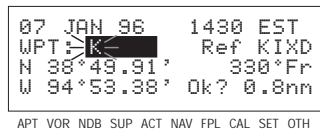
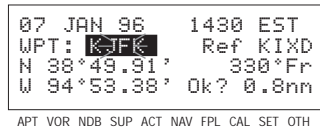

Figure 3-14
Figure 3-15
7. To aid the GPS receiver in acquiring your position, it is vital that it have a reasonable idea of where you are, and the Initialization page is where you have the chance to set this initial position. Check to see if the displayed initial position is where you actually are. This latitude/longitude is the last known position before the power was shut down the last time. Unless the unit has been moved since its last use, this position should be correct. On the right side of the screen will be the identifier of the nearest airport in the data base, with a radial and distance from that airport. If you need to change the initial position to—let's say—John F. Kennedy International (KJFK), move the cursor to the **WPT:** field and use the right inner knob to select a K as the first character of the identifier (figure 3-14). Move the cursor to the right one character and select a J and then right again to select an F. The final K should be filled in by the data base (figure 3-15). When you press **ENT**, the latitude and longitude fields will change to